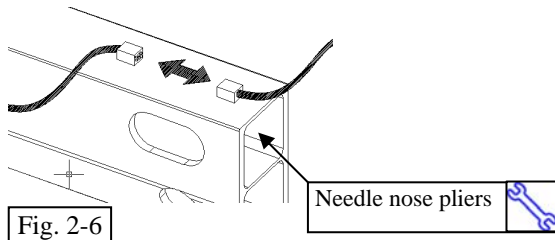

Fig. 2-6
- (h) If vehicle is equipped with back up sensors, disconnect sonar wiring. (Fig. 2-6)
- (k) If vehicle is equipped with back up sensors, disconnect plug from beam using needle nose pliers to free clip. (Fig. 2-6)
- (2) If vehicle had back up sensors reconnects wiring harness. (Fig. 2-6)
- (3) Snap in RH/LH edges at wheelwells.
- (4) Re-install fasteners in wheel well from step 2c. Tighten screws.
- (5) Re-install fasteners outboard of rear hatch from step 2b. Tighten to 7.5 N-M (66 IN-LB)